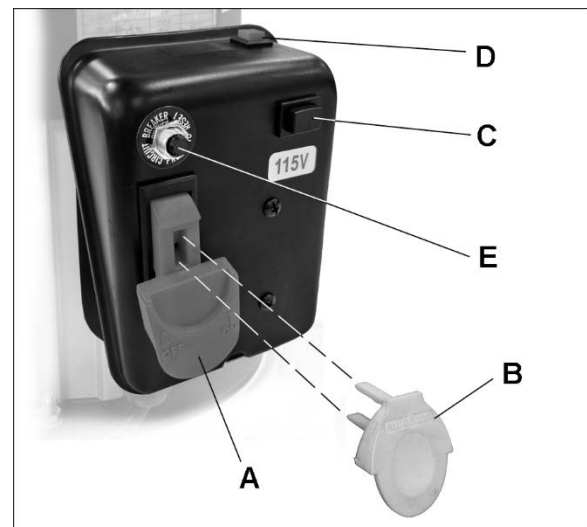

Figure 16
Main power switch (A, Figure 16) – Pull up paddle switch to engage electrical power to dust collector, push down to cut off power. Note: The switch must be in ON position for remote controller to operate.
The safety key (B, Figure 16) can be removed to prevent unauthorized use of dust collector. Key must be reinserted to start machine – press until it snaps back in.
Start/stop button (C, Figure 16) – Turns dust collector on and off, if remote controller is not used.
To operate remote controller, safety key must be inserted and main power switch turned on (A/B, Figure 16). The LED light on controller will illuminate when either ON or OFF button is pressed.
1. Press reset button (D, Figure 16) for 3 seconds until receiver “beeps” 3 times. This clears the remote controller.
2. Press reset button (D) for 1 second until receiver “beeps” once.
4. Press reset button (D) for 3 seconds until receiver “beeps” 3 times.
If the overload is tripped, allow the machine to cool down for several minutes. Then press reset button (E, Figure 16) and restart the dust collector.